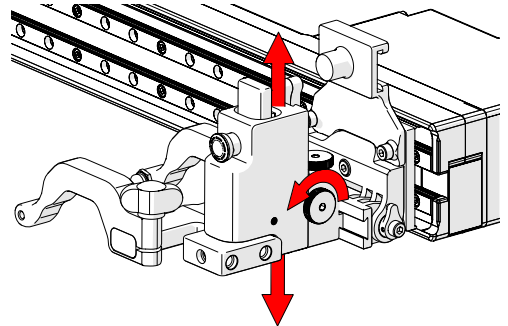

Fig. 127 - Vertical adjustment
2. The vertical adjustment knob (*Fig. 127*) allows the heavy duty vertical probe holder's height adjustment. This adjustment also controls the probe holders spring tension.